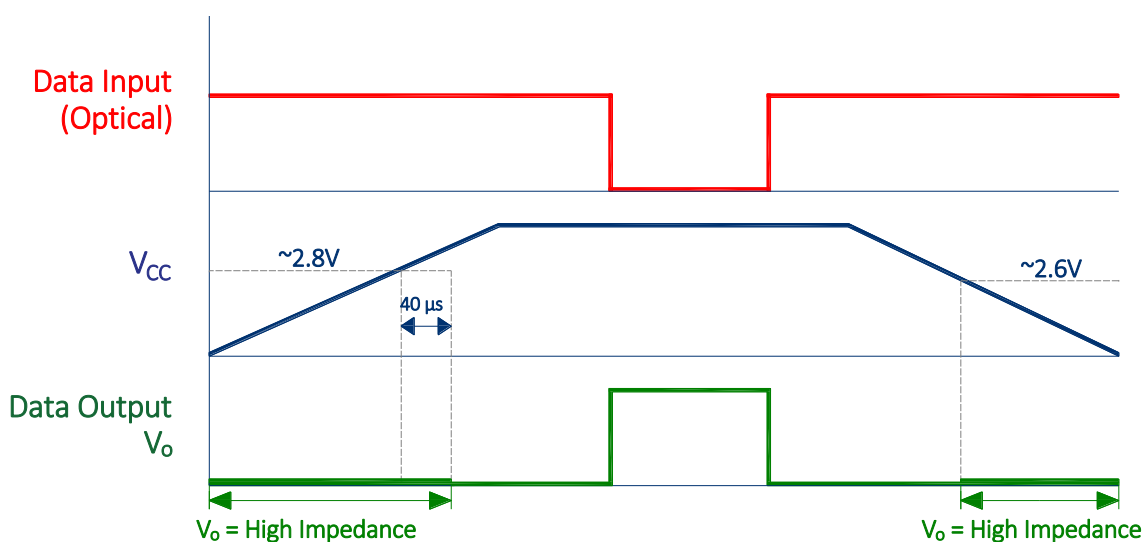

**FIGURE 2**
1. Pin 4 is electrically isolated internally. Pin 4 may be externally connected to pin 1 for board layout compatibility with existing designs. Otherwise, it is recommended pin 4 be grounded as in Figure 2.